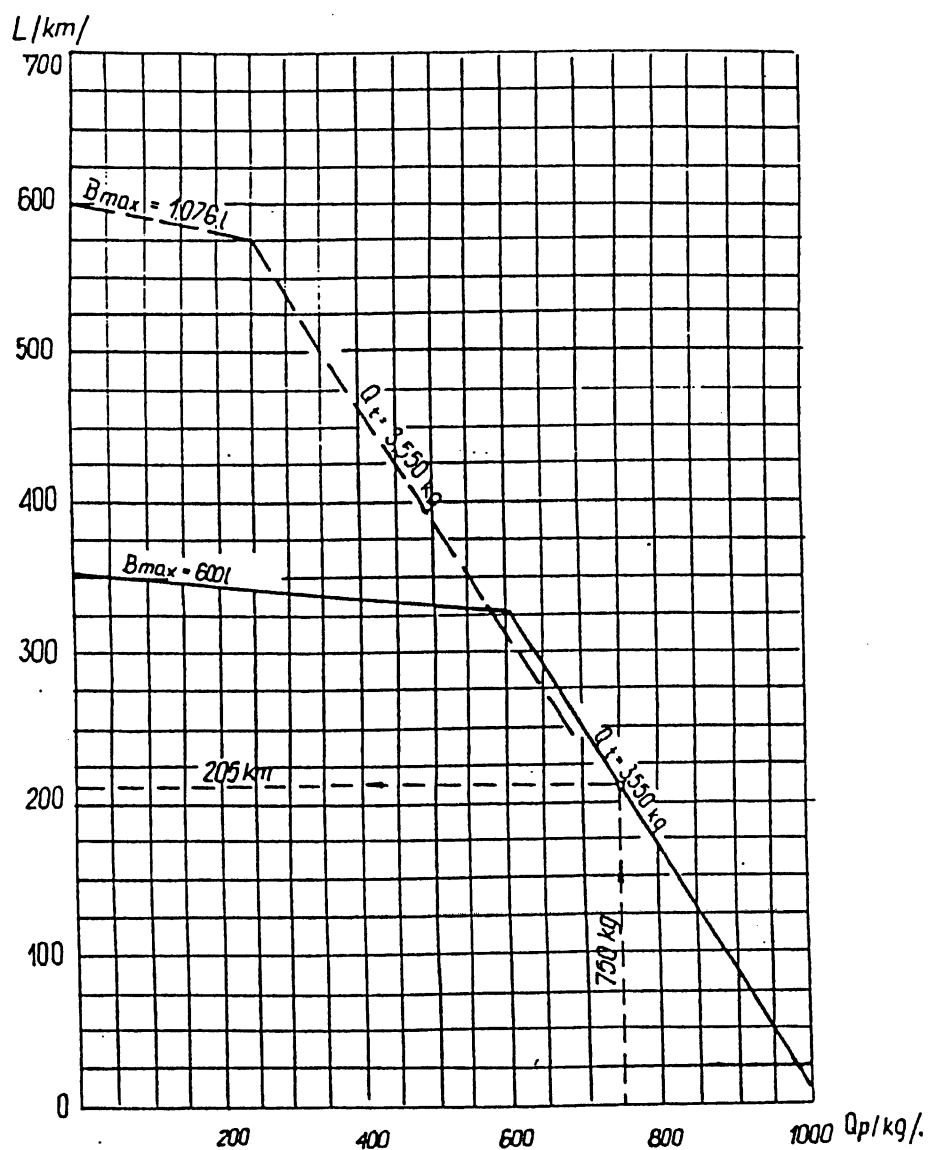
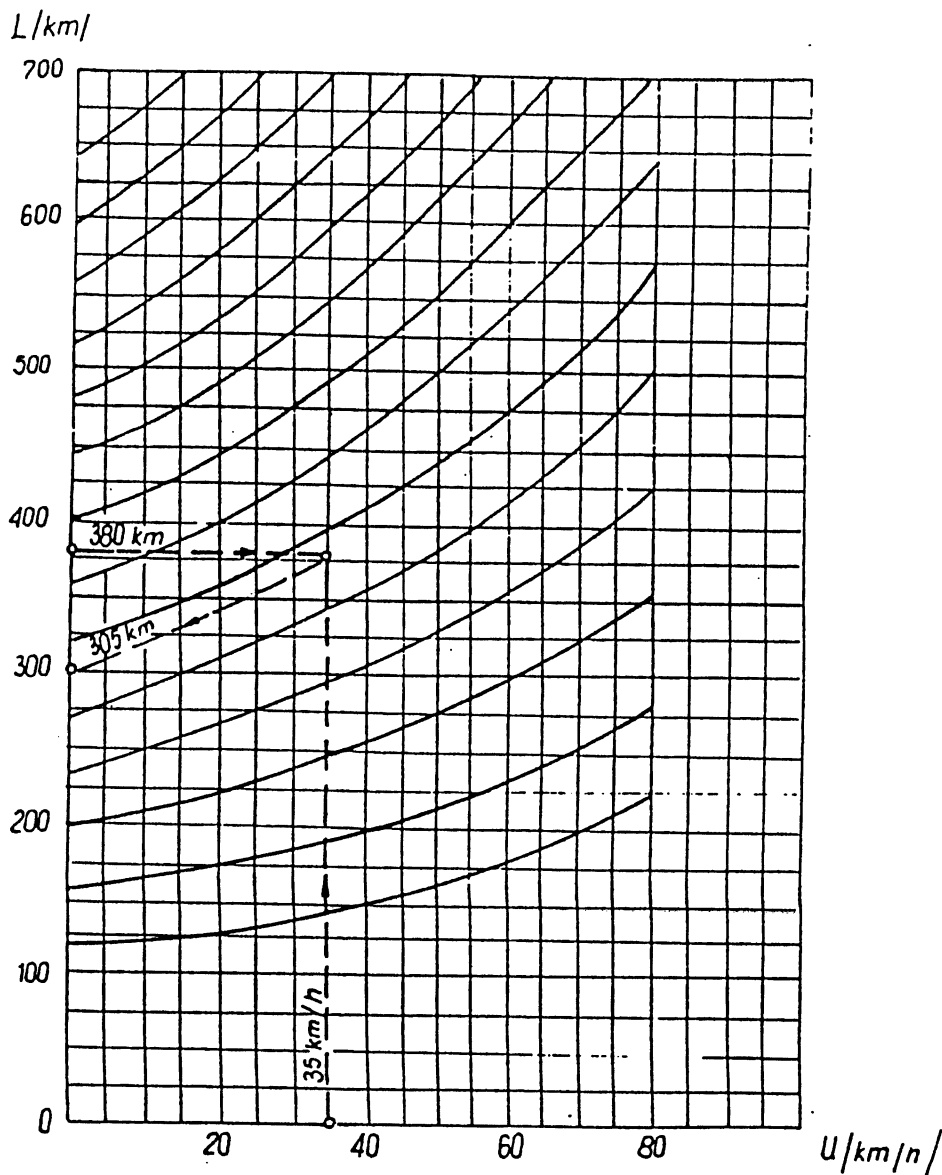

Fig. 5.8. RANGE AT 100 m PRESSURE ALTITUDE
Fig. 5.13. RELATIONSHIP BETWEEN FLIGHT RANGE AND HEAD "EQUIVALENT WIND" SPEED
In order to make allowances for the wind speed, refer to Table V-5 and charts in Figs. 5-13 and 5-14.
The charts in Figs. 5-13 and 5-14 show how the "equivalent head/tailwind" affects the range determined on the basis of charts in Figs. 5-8, 5-9, 5-10, 5-11 or 5-12.
3. From the applicable charts in Figs. 5-8, 5-9, 5-10, 5-11 or 5-12 read a corresponding theoretical flight range for windless conditions.
5. From the chart in Figs. 5-13 or 5-14, as applicable, read the actual range for the given wind conditions.